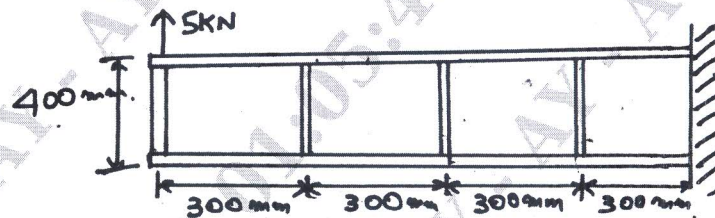

Fig.Q5(b)
b. A beam as shown in the Fig.Q5(b) is assumed to have complete tension field web. If the cross-sectional areas of the flanges and stiffeners are  $350 \text{ mm}^2$  and  $300 \text{ mm}^2$  respectively. Elastic modulus of each flange is  $750 \text{ mm}^3$ , determine the maximum stress in a flange and find whether the stiffeners will buckle. The thickness of the web is 2 mm and second moment of Area of the stiffener about an axis in the plane of the web is  $2000 \text{ mm}^4$ .  $E = 70000 \text{ N/mm}^2$ . (10 Marks)